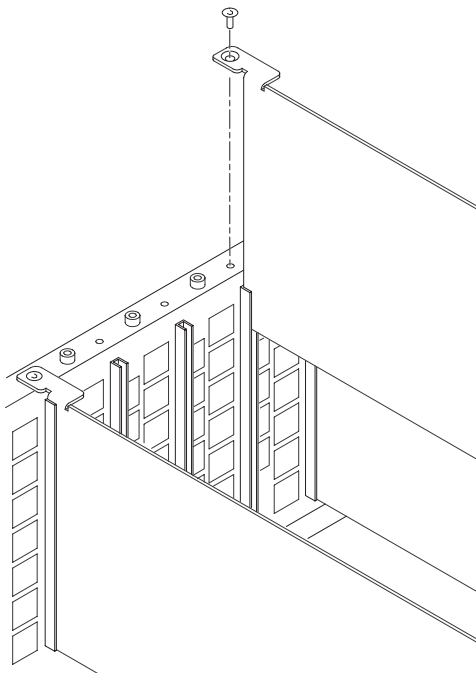

Figure C-6: Top screw
8. Insert and tighten the top screw, which is supplied with your module, as shown in Figure C-6.
5. Refer to Figure C-6 on page C-6 and remove the top screw.